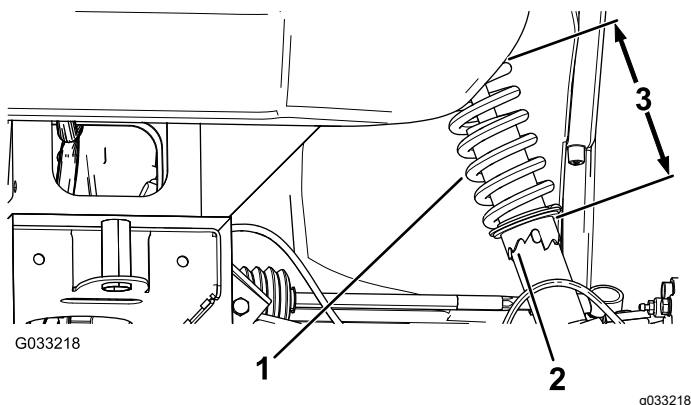

Figure 45
2. If the wheel camber is out of alignment, use the spanner wrench to rotate the collar on the shock absorber to align the wheel (Figure 45).